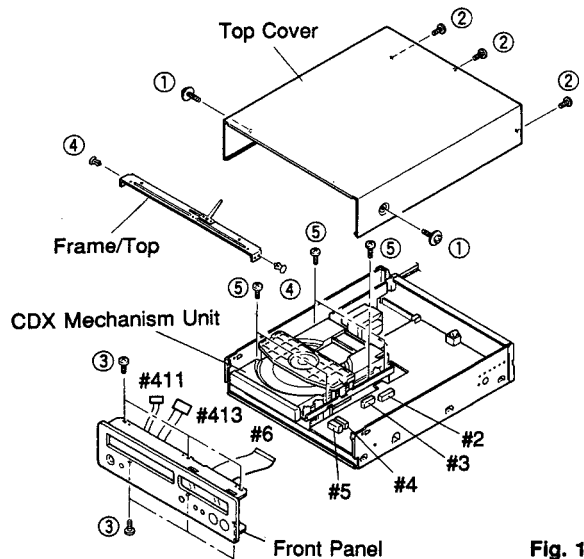

Fig. 1
- Remove 2 screws (①) and 3 screws (②) in Fig. 1.
- Remove 6 screws (③) in Fig. 1.
- Remove 2 rivet (④) and then remove the Frame/Top in Fig. 1.
- Remove 5 screws (⑤) in Fig. 1.